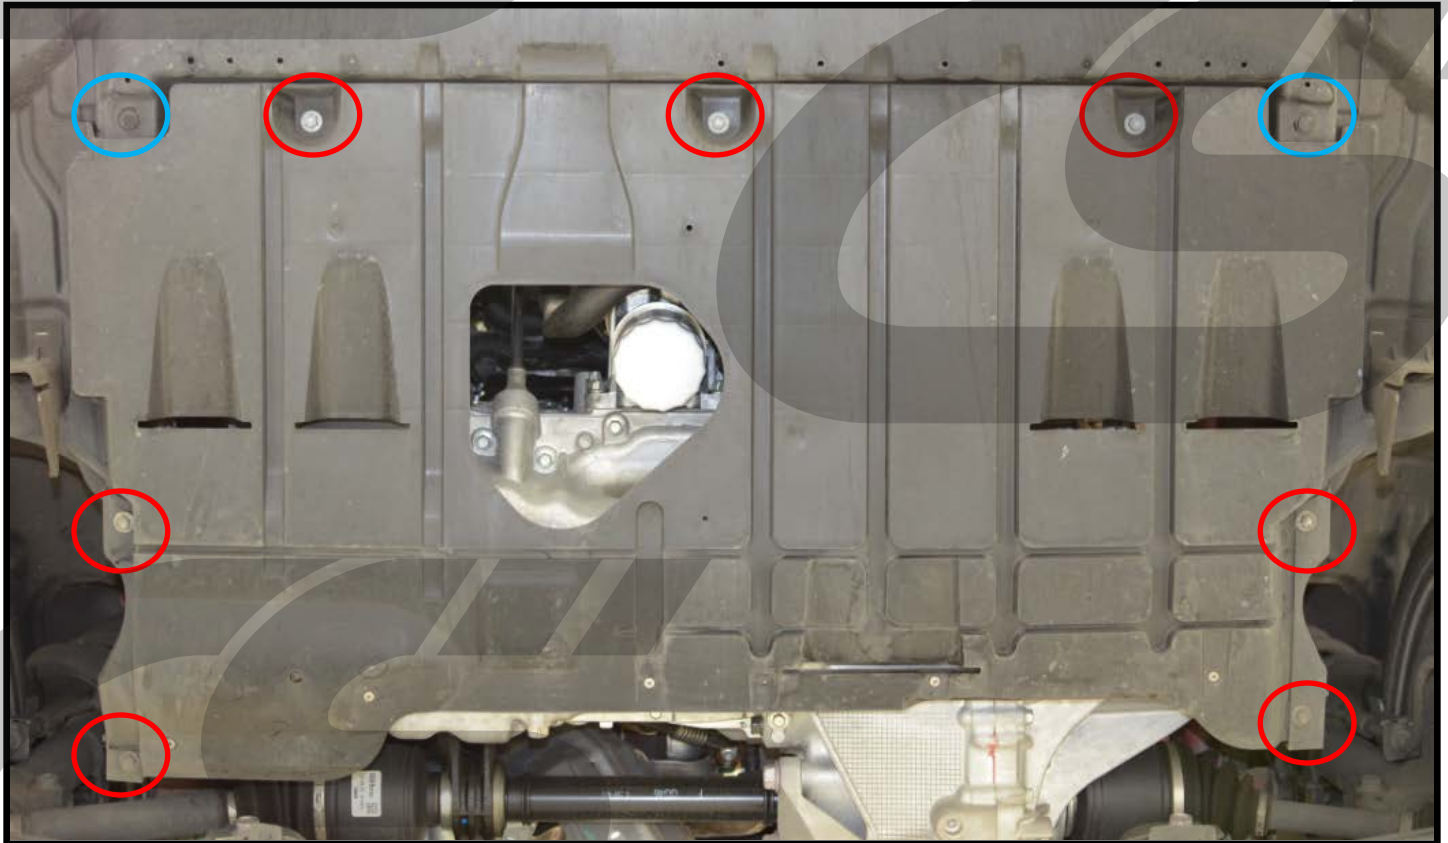

Figure 2a
- a) Remove the engine under tray with a 10mm socket and ratchet and a flat head screwdriver. Use the 10mm socket to remove the bolts circled in red and use the flat head screwdriver to remove the push clips circled in blue. (Figure 2a).
- b) Loosen the lower portion of the inner fender with an 8mm socket and ratchet. Use the 8mm socket to remove the screws circled in blue then let the inner fender hang in place (Driver's side pictured in Figure 2a).